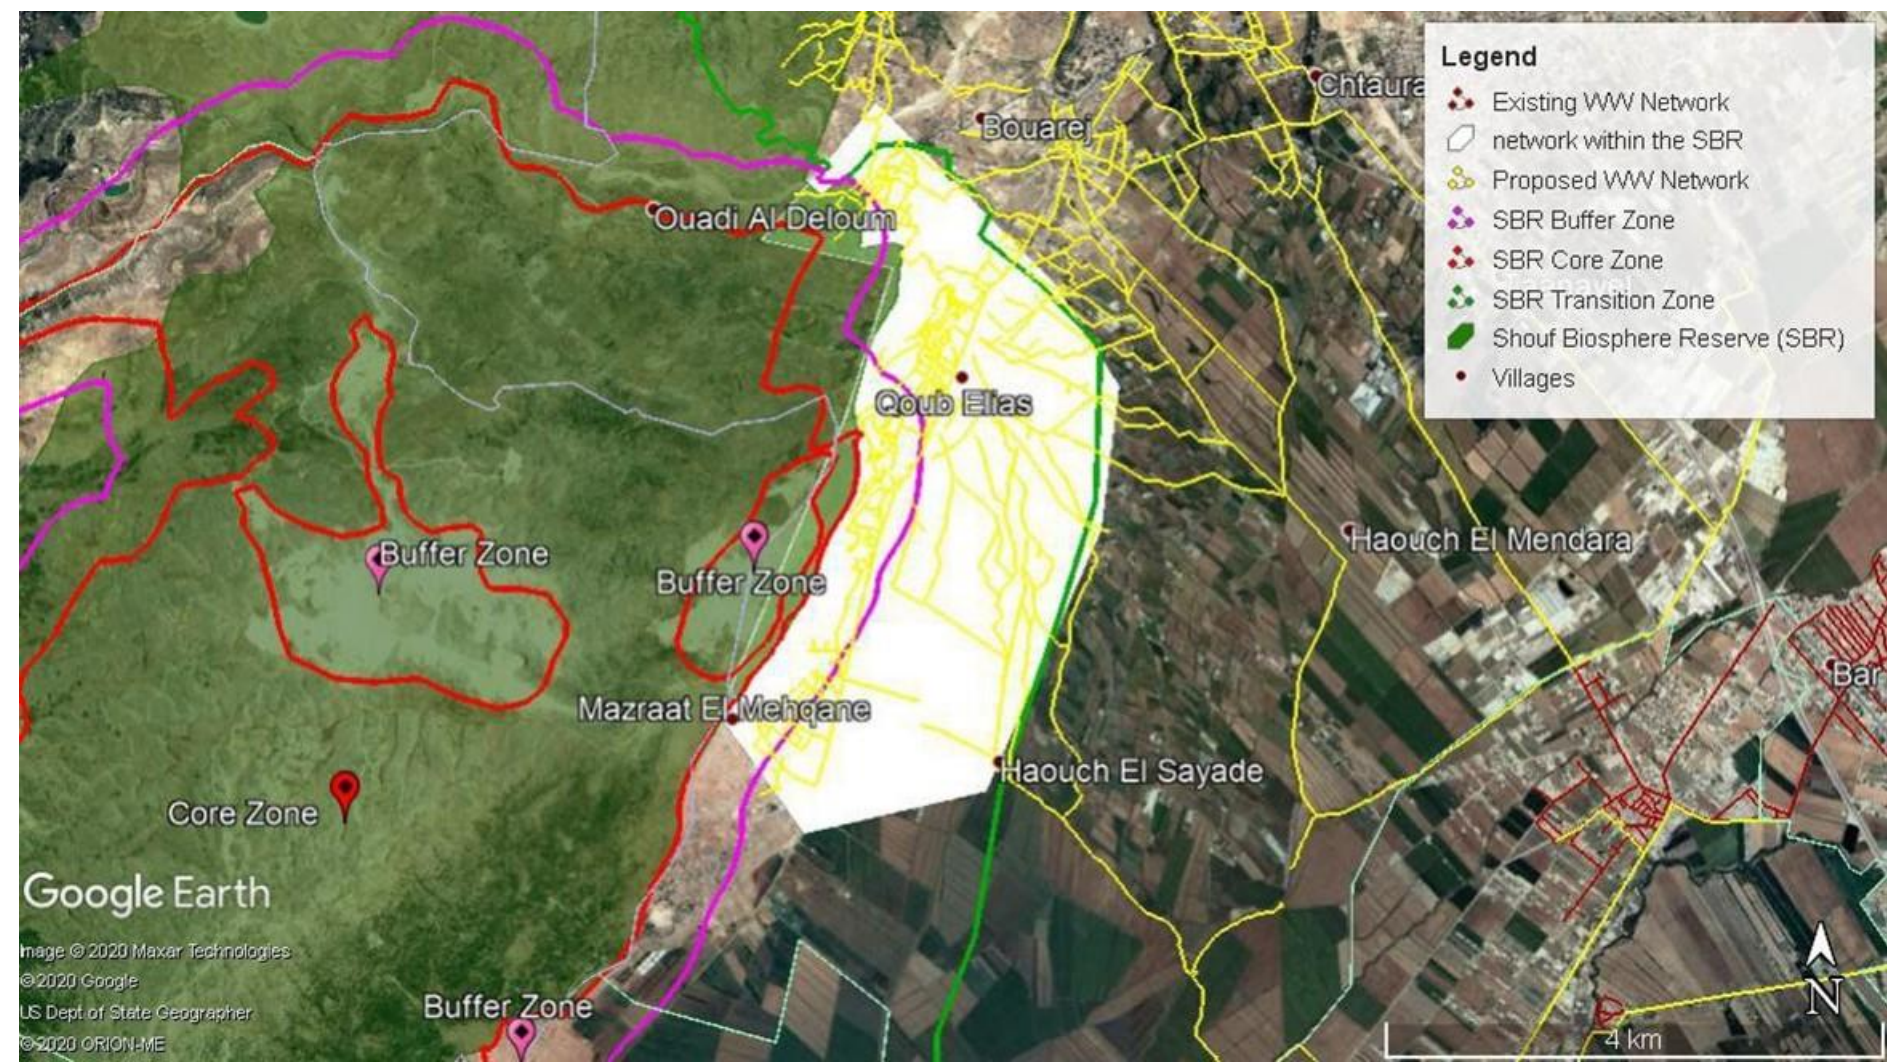

Figure 5-2: Map zooming in on the villages where Lot 1 network will pass and the SBR
- Stay away as much as practically feasible, from the KBA of the SBR while transporting materials and equipment to and from the project's sites in Qabb Elias, Mraijet and Bouerij, i.e., use roads that are far away from its boundaries to minimize negative impacts on these areas. Figure 5-2 shows the villages where the network will pass and the KBA surrounding it.